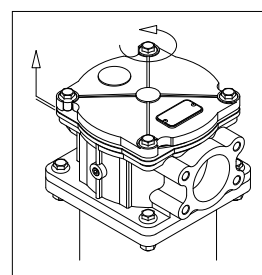

fig. 20
- (Fig. 20) On the head "IN" unfasten the cover screws by 2-3 turns, the cover is pushed outwards by a spring
- For the dismounting of the head "OUT", please refer to the instructions Fig. 20÷22 above